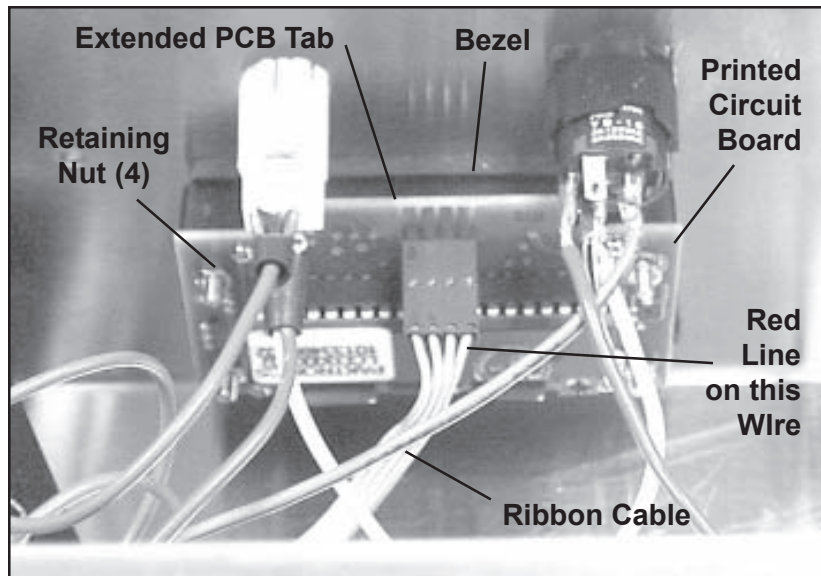

Figure 27. LCD Display
Note: Remember that the housing is inverted as you are working on it, so the tab will point down when the installation is complete (refer to Figure 27).
4. Replace the connector (four gray wires - ribbon cable) onto Terminal **P1**. **Note:** The wire with the red line should go toward the bottom, and toward the power cord end of the housing (Figure 27). **Note:** A new ribbon cable is supplied with the display. You can use the existing cable, or install the new one.